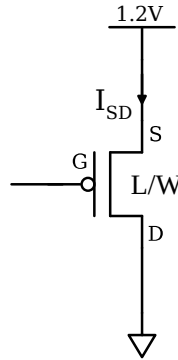

Figure 3
- c. For the PMOS in Figure 3, plot I_{SD} versus V_{SG} for $V_{SG} \in [0V, 1.2V]$ (sweep V_{SG} from 0V to 1.2V).